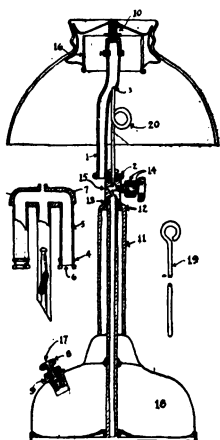

FIG. 54. Details of gasoline lamp.
**112. Pressure Lamps.** Pressure lamps (Figs. 54 and 55) have a strong tank which holds air and fuel, whether alcohol or gasoline. Air is pumped into the tank so that it presses on the fuel with force enough to push the fuel up the pipe